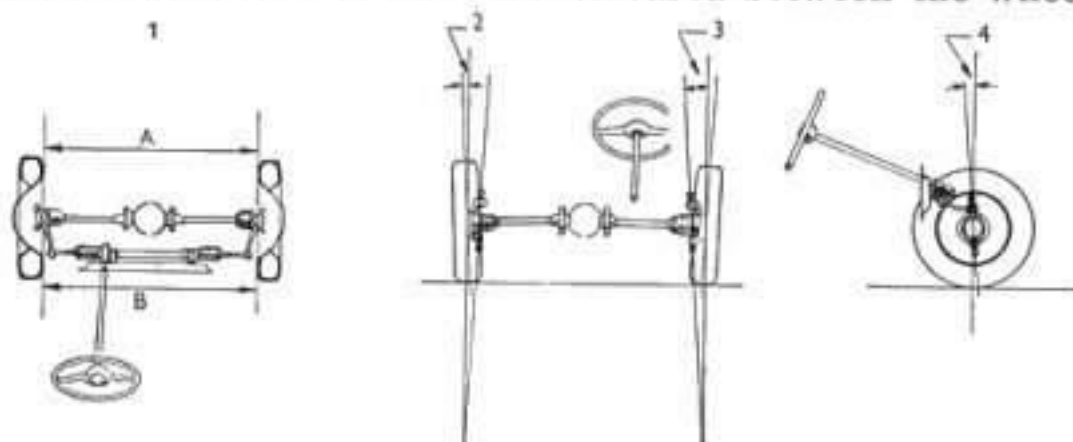

Fig. 25. Front Wheel Alignment
* Since this car has ball joint suspension of the wheels, the term king pin refers to an imaginary line through the centers of the ball joints. See fig. 25.